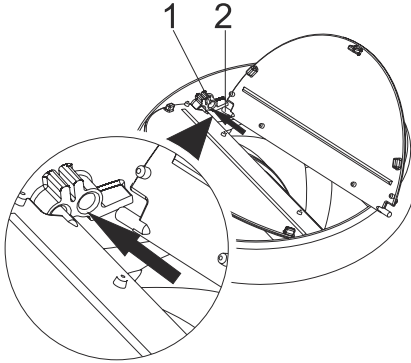

Fig. 10
- Insert the plastic pin (area no.2) on the pin socket on the motor exhaust (area no. 1). Fig. 10(Fig. 10). Then bend the flap lightly to insert the other pin on the flap and insert the other pin to its socket (Fig. 10).